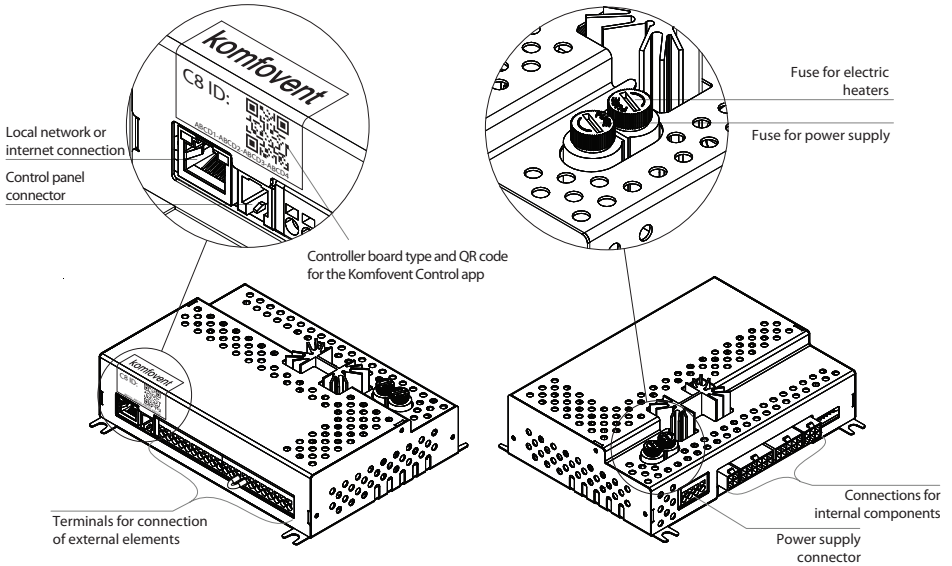

Fig. 12. C8 controller main board
- The terminal numbering shown here only applies for C8 controller board. Before connecting the external elements, check the board type on the sticker in the front of the controller (see Fig. 12).
It is advisable to run the control panel cable in such a way that it does not go near the power supply wires or high voltage electrical equipment (electrical inlet cabinets, electric water heating boiler, air conditioning unit, etc.). The cable can be passed through the holes in the back or bottom of the control panel (follow the installation instructions supplied with the control panel). The wire to C8 controller board is connected to a dedicated slot (RJ9 connector; see Fig. 12) or to the terminals for external connections.
The unit can be controlled not only by the control panel, but also by computer or smart phone. In such cases, the air handling unit must be connected to an local computer network or to the Internet. The unit is controlled by a computer using a web browser, or a smartphone with a Komfovent Control app. The air handling unit is connected to the computer network with a CAT5 type cable (RJ45 connector; see Fig. 12). The total cable length between the unit and the network router must not exceed 100 m.
- The easiest way to manage your unit over the internet is to use a smartphone with the Komfovent Control app. Launch the app on your phone (the phone must have Internet access). When you connect for the first time, the app will ask you to scan the QR code at the front of the controller board (see Fig. 12). When you scan the code, the app will automatically establish the connection to the unit (for more information on the Komfovent Control app, see “Domekt User Guide”).